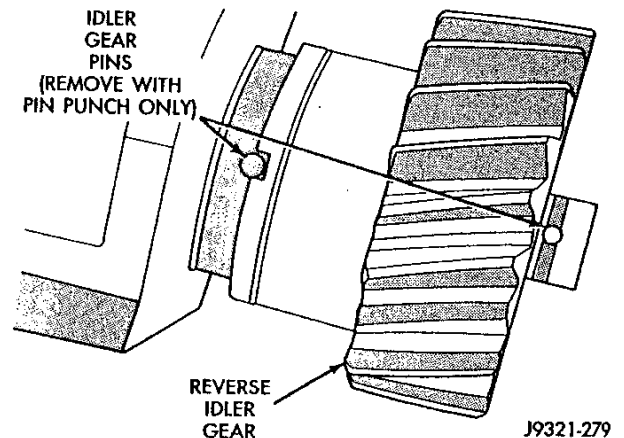

Fig. 14 Location Of Reverse Idler Shaft Pins
(1) Remove idler shaft pins (Fig. 14). Use appropriate size pin punch only to remove pins. Discard pins after removal as they are not reusable.